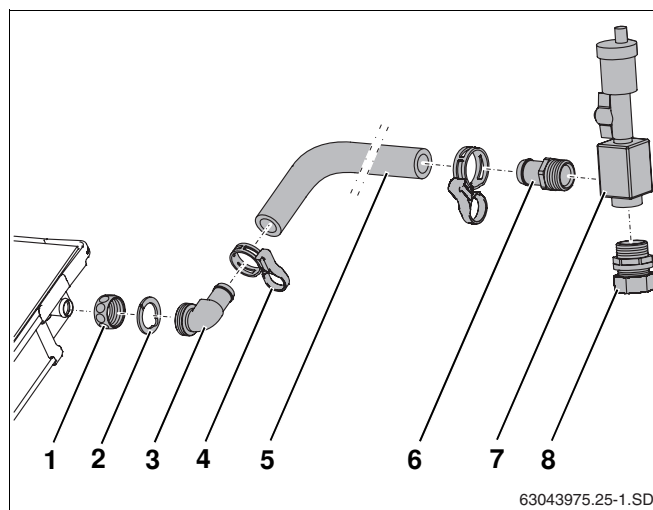

Fig. 38 Fitting the solar hose to the flow connection
- Push nut (Fig. 38, **Item 1**) over the collector connections.
- Place the clamping disc (Fig. 38, **Item 2**) behind the head on the collector connection and press together.
- Align angled nozzle with O-ring (Fig. 38, **Item 3**) and join with nut.
- Push long solar hose (1000 mm, Fig. 38, **Pos. 5**) onto the angled nozzle and fix in place using hose clip (Fig. 38, **Item 4**).
- Screw R $\frac{3}{4}$ hose nozzle with O-ring (Fig. 38, **Item 6**) and double threaded fitting with O-ring (Fig. 38, **Item 8**) into the air pot (Fig. 38, **Item 7**).
- Push hose nozzle (Fig. 38, **Item 6**) onto the solar hose as far as it will go and fix in place using hose clip.
- Connect header pipe to the compression fitting (Fig. 38, **Item 8**).